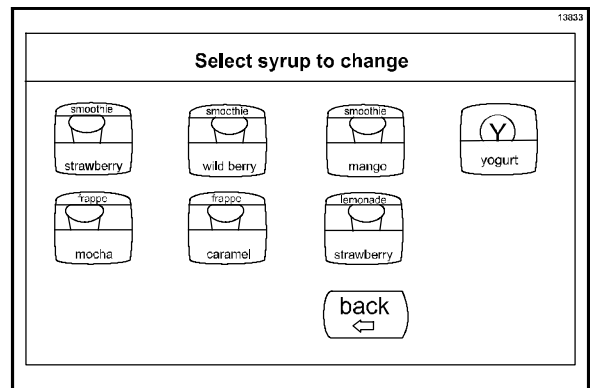

Figure 36
- Press the appropriate product key. (See Figure 36.)